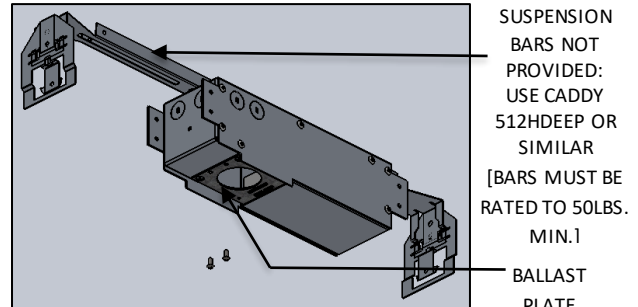

FIG. 18- DRIVER PLATE DISASSEMBLE
13. Remove the DRIVER PLATE by removing the Two Screws and slide out as shown below in FIG. 18.